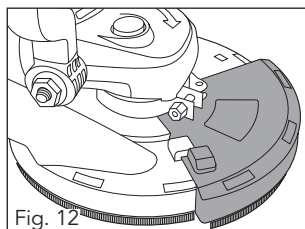

Fig. 12
Only open pivoting guard (1) when working close to walls, otherwise the pivoting guard must be closed (fig. 12).